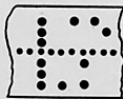

FIGURE 82.
D. *Thin spaces may be inserted between the letters of a word ("letter spacing"—see Figure 82).*